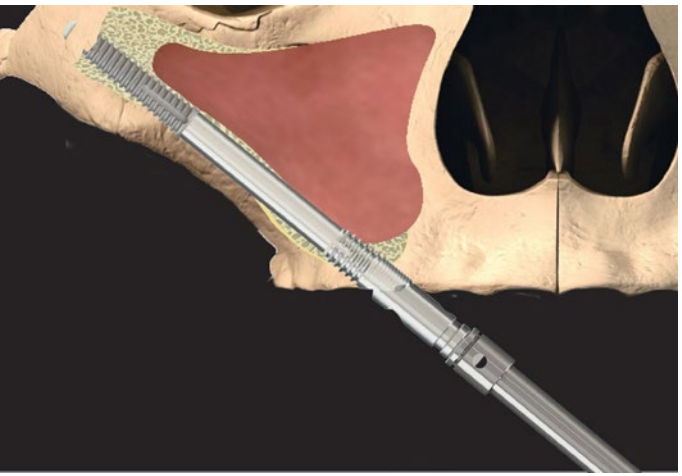

Figure 18
7. Before inserting the implant, ensure that the implant site is free of soft tissue remnants. The handpiece with connector (I-CON-X) is used for the initial insertion of the implant, with the torque control set at 50 Ncm at 15 rpm. Push the Straumann® Zygomatic implant, ZAGA™ Flat (CH-ZC or CH-ZF) straight through the alveolar preparation. You will only need to start screwing when the apex reaches the zygoma, thus reducing the insertion time. When the handpiece torques out, switch to the onion driver (I-ZYG-INS-2/ I-IMP-INS-2) (Figure 18).